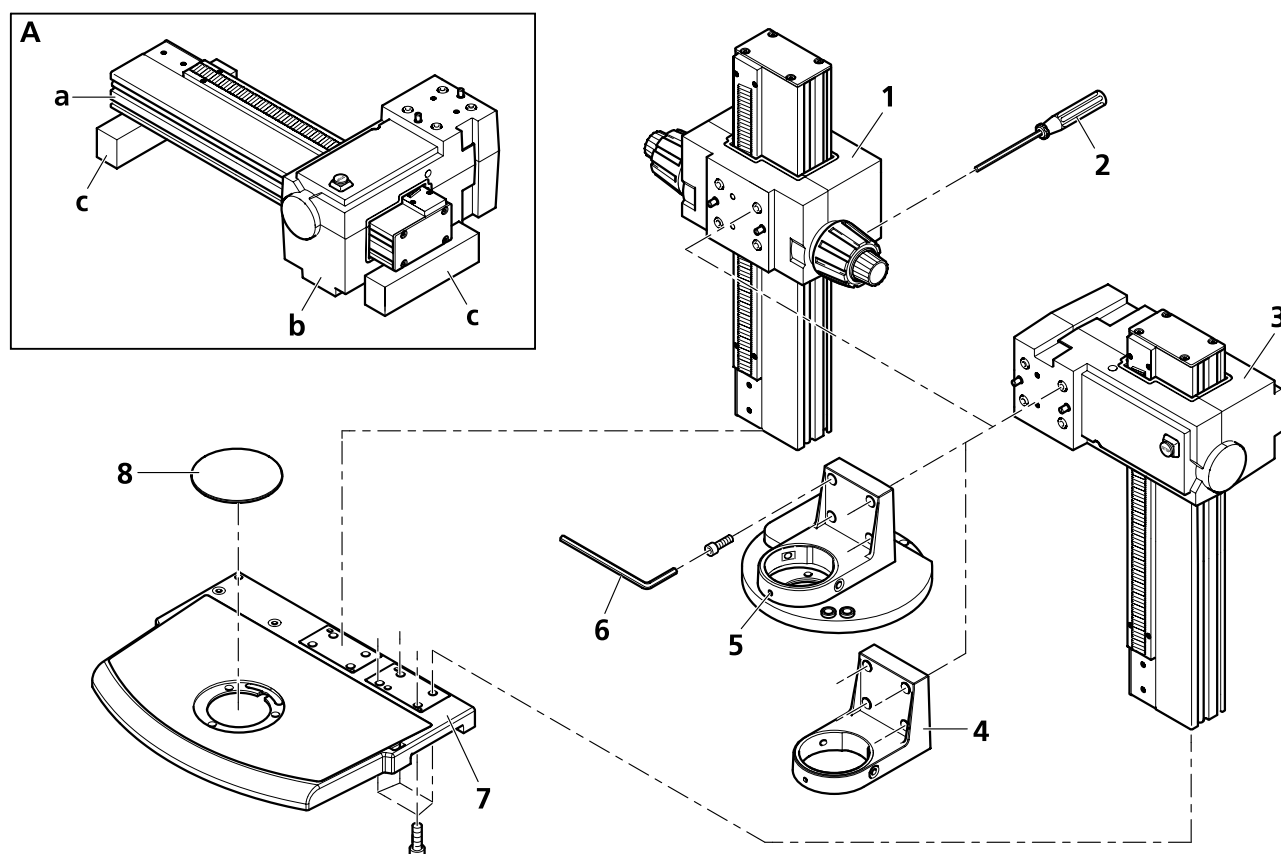

Fig. 13 **Setting up the stand**
To avoid any damage to the motorized focusing drive (Fig. 13/A), put it down only on the **back** of the column (Fig. 13/a) using sufficiently high supporting blocks (Fig. 13/c) (do **not** put it onto the rack side). The focusing unit (Fig. 13/b) of the focusing drive must not be used as support. Do not lift or carry the focusing drive by holding it at the focusing unit (Fig. 13/b)! Avoid heavy shocks to the focusing drive.
- Attach the column of the *motorized focusing drives* (Fig. 13/3) to the **right** mounting surface of the stand base (Fig. 13/7) or the column of the *manual focusing drive* (Fig. 13/1) to the **left** mounting surface and let the two locating screws click into place.
- Screw on the column tightly by screwing four Allen screws (SW 8) through the stand base (Fig. 13/7).
- Set up stand base (Fig. 13/7) with screwed on column.
- Put carrier (Fig. 13/4) or objective nosepiece (Fig. 13/5) onto the focusing drive letting the two locating screws click into place and keeping hold of the respective unit until the first screw has been tightened.
Mount the carrier (Fig. 13/4) rotated by 180° if you want to examine higher samples.
- Screw down all four Allen screws (SW 5). Use the long leg of the offset Allen key (Fig. 13/6) to screw the screws in, and the short leg to fasten them hand-tight.
- Insert 120 mm B/W plastic plate (Fig. 13/8); press on its rear edge to remove it again.
- Insert the supplied ball-headed screwdriver with SW 3 mm (Fig. 13/2) in one of the bores that are radially arranged on the torque-adjusting ring.